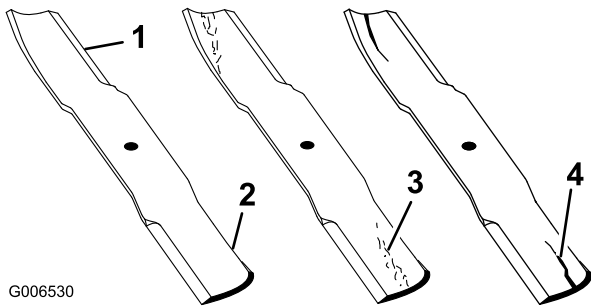

Figure 45
1. Inspect the cutting edges (Figure 45). If the edges are not sharp or have nicks, remove and sharpen the blades; refer to Sharpening the Blades.
2. Inspect the blades, especially the curved area (Figure 45). If you notice any damage, wear, or a slot forming in this area (item 3 in Figure 45), immediately install a new blade.